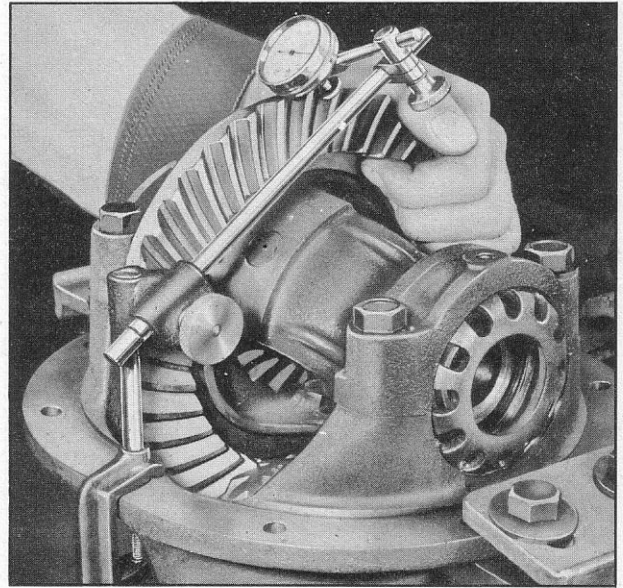

Fig. 29—Checking Ring Gear and Pinion Backlash
4. Mount a dial indicator on the carrier and check the back lash (fig. 29), between the ring gear and pinion. The back lash should be from .005"-.008".